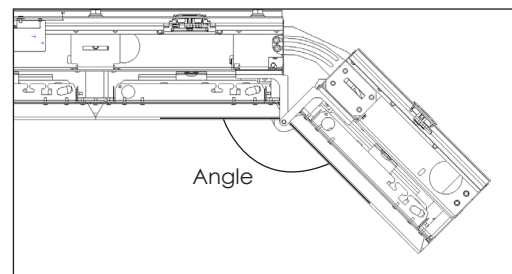

Figure 25: Set Wing at Appropriate Angle
3. Set the wing at the necessary angle to engage the left and right sections. The hinge adds a gap (seam) between the module columns, which is necessary for top-access module removal via the module pan sliders. Refer to **Figure 25**.